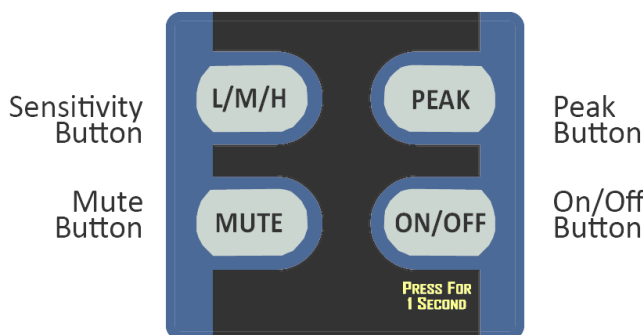

Figure 4. Buttons
L/M/H Button (Sensitivity Levels)	Set the unit's sensitivity level by pressing the L/M/H button. Refer to Figure 4. Low (L), medium (M), or high (H) sensitivity level is indicated by its respective LED. The higher the background concentration of refrigerant in the air, the lower the sensitivity level should be set. To detect a very small leak in a high refrigerant background, use Background Mode.
ON/OFF Protection	Press and hold the ON/OFF button for one second to turn the instrument ON or OFF. This one-second delay protects against accidental ON or OFF. Refer to Figure 4.
Mute Button	Press the MUTE button to toggle the audio portion of the instrument ON or OFF. Refer to Figure 4.
Peak Button	The PEAK function stores the highest change in refrigerant concentration achieved while continuing to detect leaks. Press the PEAK button to toggle this function ON and OFF. Refer to Figure 4. The PEAK LED illuminates when this function is turned on. Turning the PEAK function off clears the peak information.